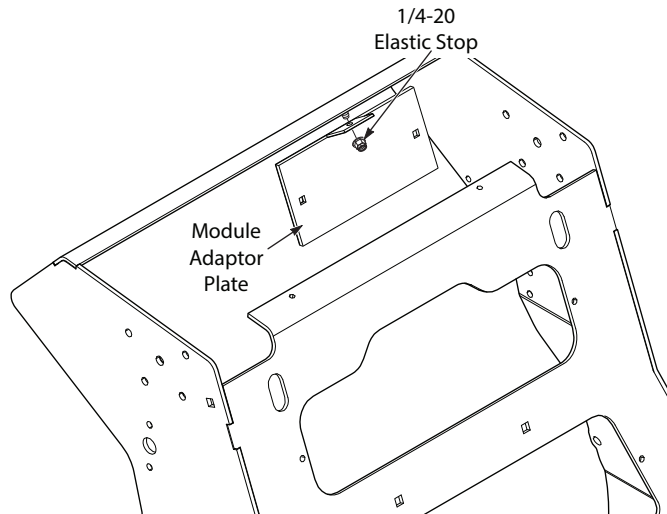

Figure 3. Install Module Adaptor Plate if Needed
- On machines originally equipped with the nozzle control relays mounted under the instrument panel, install the module adaptor plate provided with this kit in place of the relay mounting bracket removed previously. Secure the module adaptor plate using the one (1) 1/4-20 flanged elastic stop nut removed in step number 4. See Figure 3.